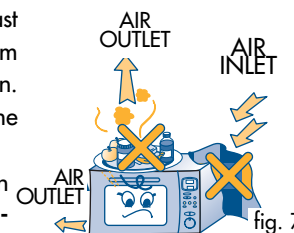

fig. 10
- 7) Do not block the air intake vents. In particular, do not place any objects on top of the oven and check that the air and steam outlets (placed on the top, on the bottom and on the back of the appliance) are ALWAYS FREE OF OBSTRUCTIONS (fig. 10).
- 8) Place the support (I) in the centre of the circular groove and attach the turntable (H) to it. The spindle (D) should be inserted in the corresponding groove in the centre of the turntable.